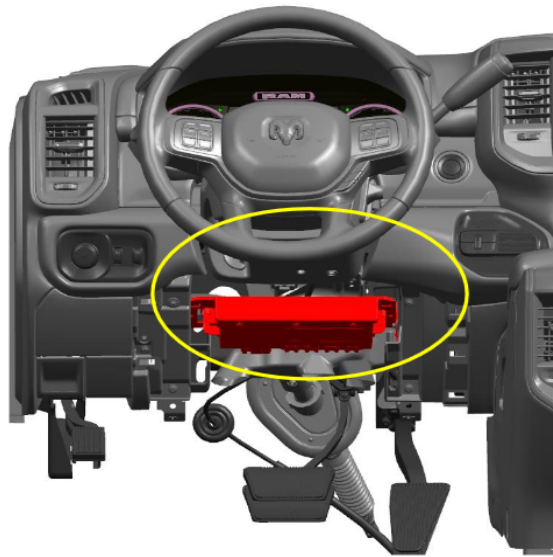

Figure 15 - VSIM Location
3. Crimp pin supplied with harness to Violet/Tan wire coming from pin 5 on Ram supplied gray connector located to the right of the VSIM. Reference Figure 15 for VSIM location.
6. Splice **"ENGINE STOP IN"** wire to light green/dark blue wire coming from pin 9 on green VSIM connector located in upfitter kit. Reference Figure 15 for VSIM location.
2. Splice "**CHASSIS CAN HIGH**" yellow wire to the brown/dark blue wire coming from pin 10 on gray VSIM connector located in upfitter kit. Reference Figure 15 for VSIM location. Splice "**CHASSIS CAN LOW**" green wire to the brown/light blue wire coming from pin 11 on gray VSIM connector located in upfitter kit. Reference Figure 15 for VSIM location.
8. Connect "**POWER IGNITION**" wire to pink/yellow wire coming from pin 13 on black VSIM connector. Reference Figure 15 for location.